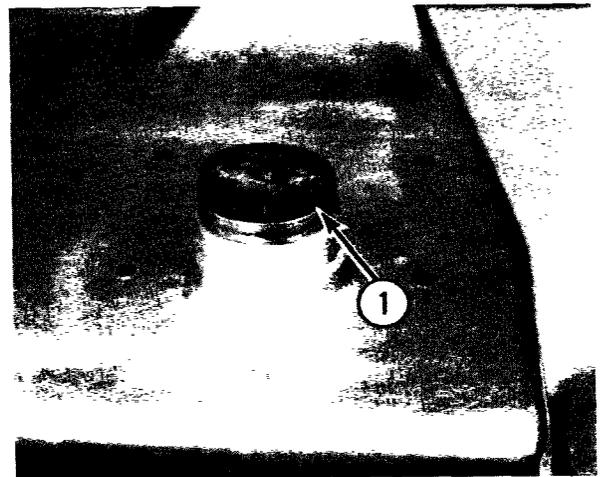

Fig. 3-4
C. Remove the bowl support and check for shims on top of the vertical bowl drive shaft (1, Fig. 3-4).